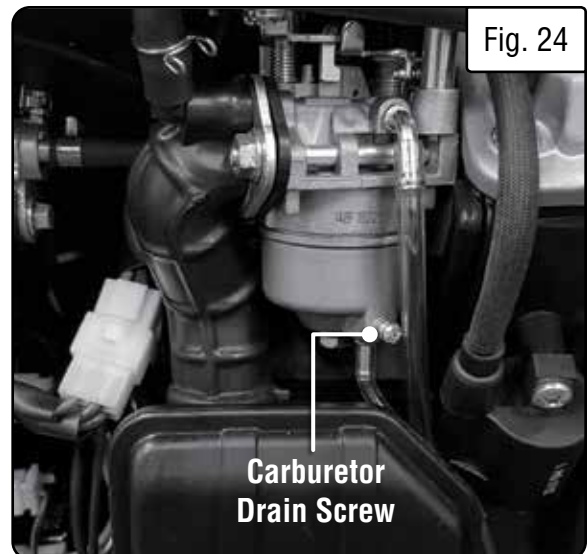

Fig. 24
3. Open up the carburetor drain screw (Fig. 24) with a Phillips screwdriver and drain out any gasoline that has built up inside the carburetor.